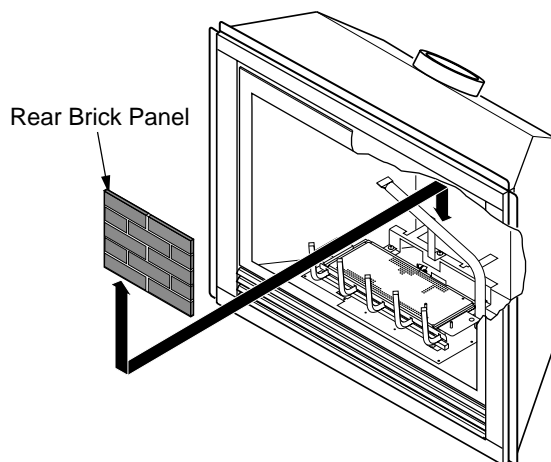

Figure 43 - Installing Rear Brick Panel
5. Install rear brick panel first. Rest bottom edge of panel on back edge of grate (see Figure 43).